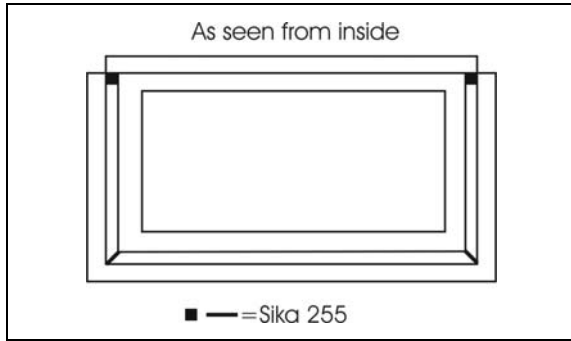

FIGURE 67: SIKA 255 APPLICATION
3. Apply Sika 255 (or 252) at the upper and lower frame corner as per FIGURE 67.